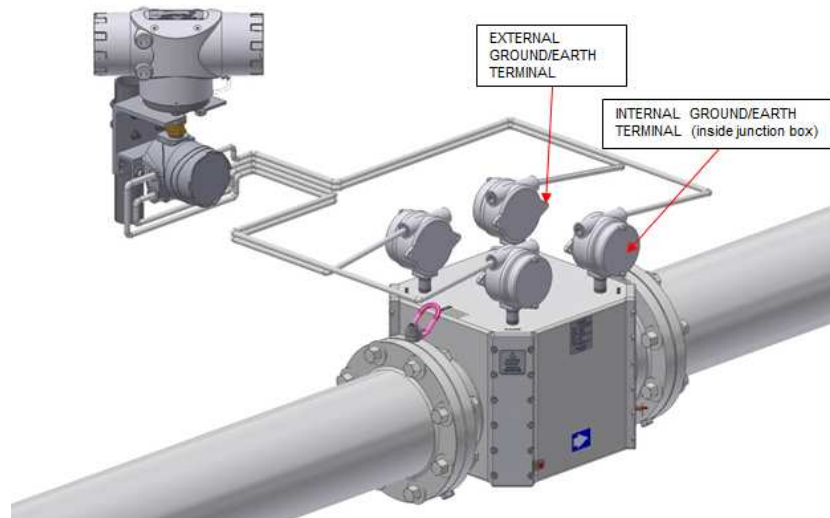
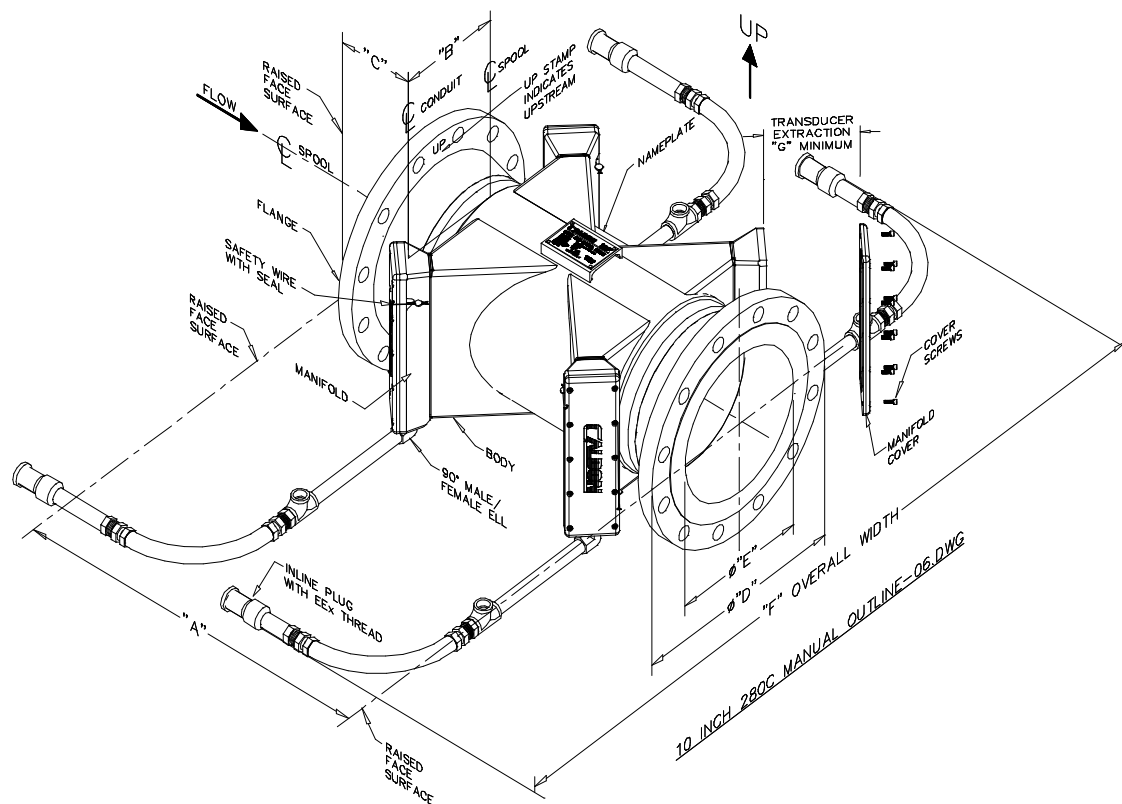

Figure 3-3 LEFM 2xxCi-R or LEFM2xxCiLT-R Meter Body Junction Box Locations
Figure 3-4 LEFM 2xxCiLT-R Meter Body Termination Locations with built in connectors (no junction boxes)
- Multiple J Box on meter configuration: Table 3-1, Table 3-2, and **Error! Reference source not found.** Refer to Figure 3-3 for meter body junction box locations. If the meter body does not include junction boxes, route the cables directly from the meter body. Refer to Figure 3-4 for this configuration.